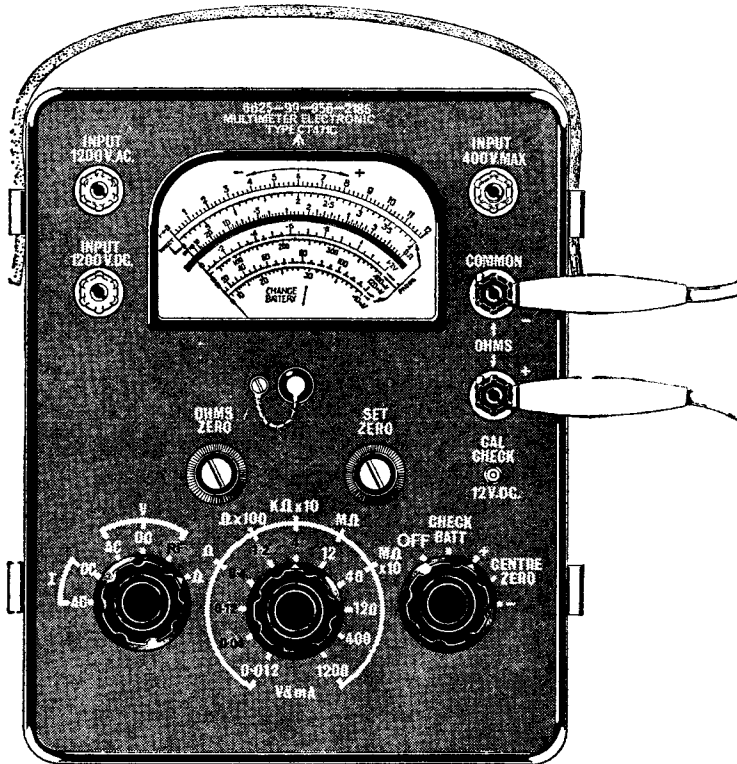

Fig. 5. Multimeter electronic TC471C
- c. Adjust the movement zero if necessary, using the screw shown in figure 5.
- e. Connect the meter leads to the terminals shown in figure 5 and join the ends together. Switch to a d.c. current range with the right hand selector switch on +. Adjust the knob marked 'set zero' to align the pointer with the left hand limit of the scale.